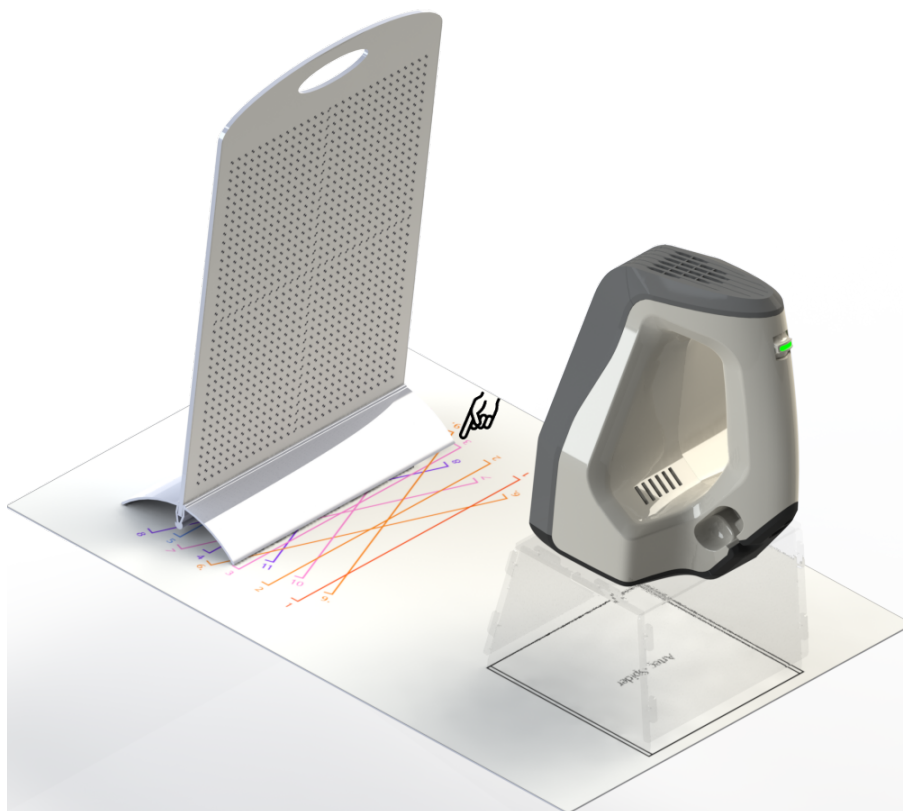

Figure 215: Calibration rig, positioning sheet and scanner stand with Artec Spider.
4. Set the calibration rig on the positioning sheet, turning its marker side towards the scanner as Figure 215 shows.